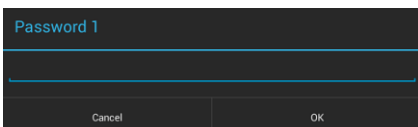

FIG. 34 Password 1 window
1. In the *G5 Settings* page, under *PASSWORD PROTECTION*, press **Password 1** to open the *Password 1* window to enter a new alphanumeric password via the on-screen keyboard (FIG. 34):